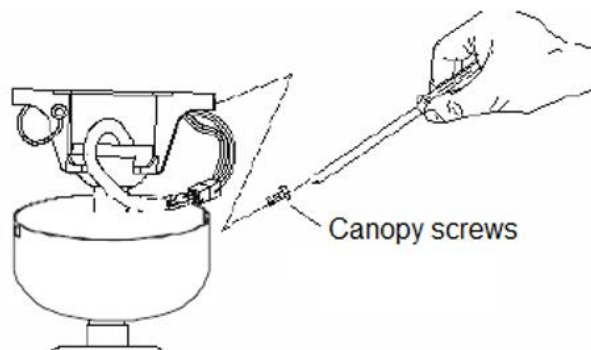

Fig. 13
- Cover the mounting bracket with the canopy. Ensure all electrical wiring is tucked inside the canopy and that the wires are not damaged during this step. Secure the canopy to the hanger bracket using the screws provided. (Fig. 13)